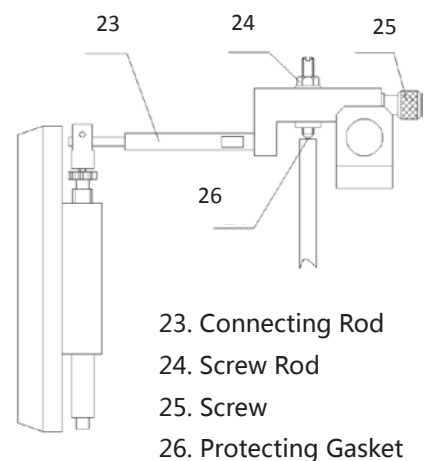

Fig 5
After the hardness tester is properly placed, open the Upper Cover (12) and the Back Cover (11). Untie the fastening rubber tape on the Connecting Rod (25)(Fig.5), and draw out the foam block under the Protecting Gasket(26) and Lever(16). Untie all the white gauzes bands on moving parts and then recover the Upper Cover and Backer Cover to keep away dust.
5.3 The Regulation of Displayed Hardness Value (Fig.5)